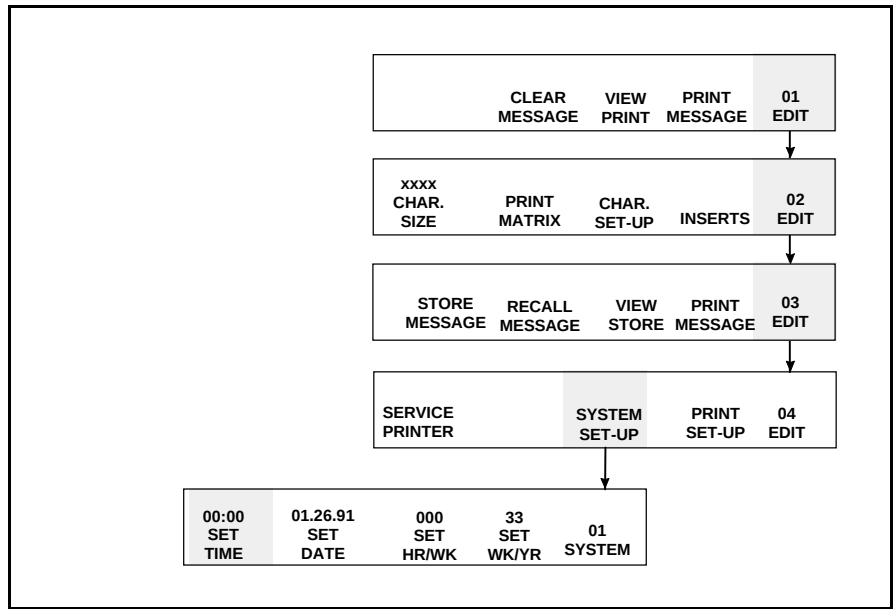

Figure 7-5. Accessing Frame <01 SYSTEM>
1. Begin in Frame <01 SYSTEM>. Refer to Figure 7-5.